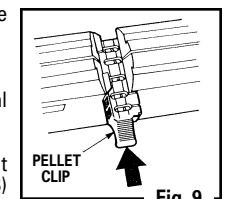

Fig. 9
- Replace the pellet clip, making sure to line up one of the pellet chambers with the barrel chamber (Fig. 9). **IMPORTANT:** If the pellet clip is not lined up properly, you will not be able to push the bolt forward.